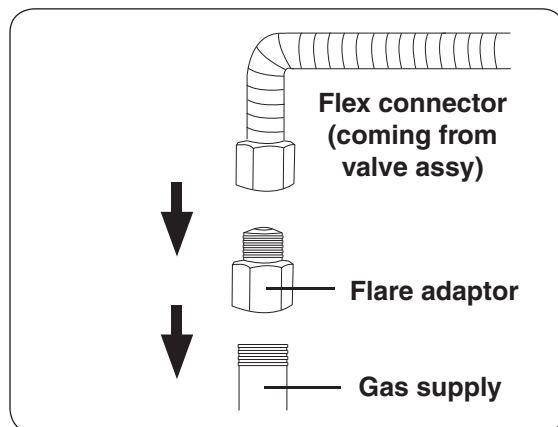

Fig. 19-3 Connecting to a gas line
3. Install the supplied flare adapter to the gas supply (NPT) using a gas pipe sealing compound or Teflon tape (see Fig. 19-3).
4. Connect the flex connector to the flare adapter (see Fig. 19-3).